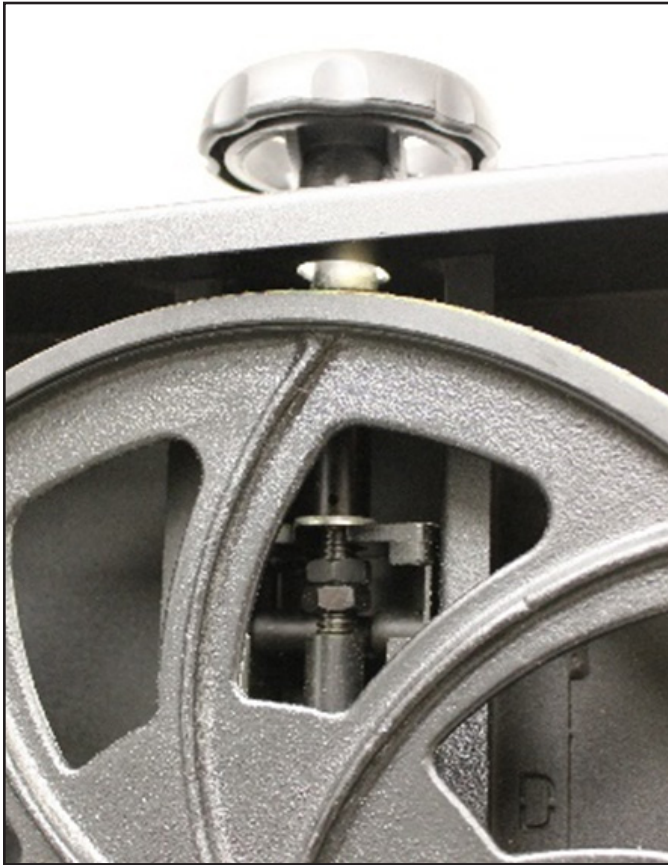

Figure 22: The Blade Tensioning Assembly.
- Excessive counterclockwise turning of the Blade Tension Handwheel to release tension may unscrew the threaded Blade Tension Rod from its tapped Block, Fig. 22.
1- Locate the threaded Blade Tension Rod behind the top bandsaw wheel Fig. 22.